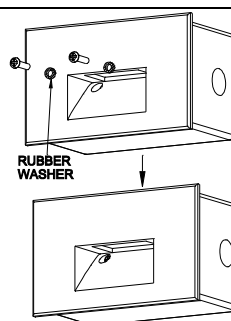

FIG.4
6. Secure the fixture to the surface using two mounting screws and two rubber washers provided. (See Fig.4)